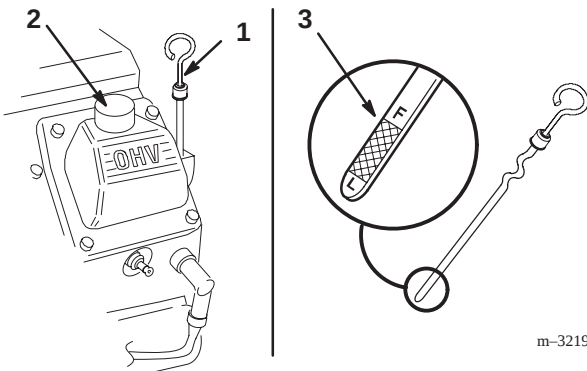

Figure 26
2. Clean around the oil dipstick (Fig. 26) so dirt cannot fall into the filler hole and damage the engine.
3. Pull the oil dipstick and wipe the metal end clean (Fig. 26).
4. Slide the oil dipstick fully into the filler tube. Pull the dipstick out and look at the metal end (Fig. 26). If oil level is low, slowly pour only enough oil into the filler tube to raise the level to the “FULL” mark.
5. Slowly pour approximately 80% of the specified oil, on page 32, into the filler cap (Fig. 26). Now check the oil level; refer to Checking Oil Level, page 32. Slowly add additional oil to bring to "FULL" mark on dipstick.